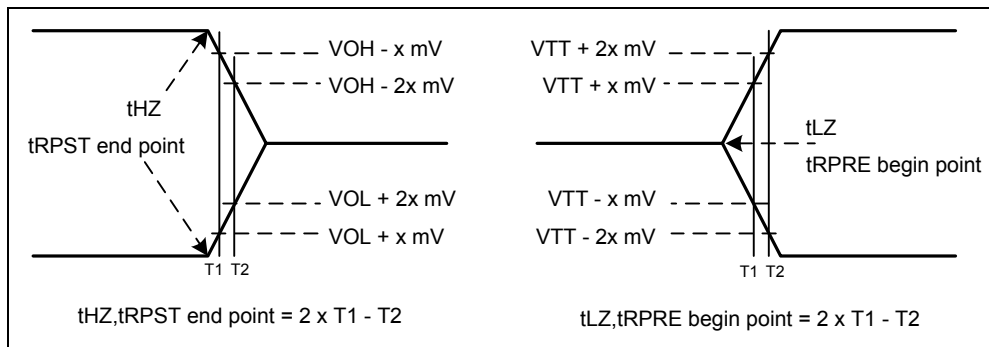

**Figure 18 — Method for calculating transitions and endpoints**
14.  $t_{RPST}$  end point and  $t_{RPRE}$  begin point are not referenced to a specific voltage level but specify when the device output is no longer driving ( $t_{RPST}$ ), or begins driving ( $t_{RPRE}$ ). Figure 18 shows a method to calculate these points when the device is no longer driving ( $t_{RPST}$ ), or begins driving ( $t_{RPRE}$ ) by measuring the signal at two different voltages. The actual voltage measurement points are not critical as long as the calculation is consistent.
15.  $t_{HZ}$  and  $t_{LZ}$  transitions occur in the same access time as valid data transitions. These parameters are referenced to a specific voltage level which specifies when the device output is no longer driving ( $t_{HZ}$ ), or begins driving ( $t_{LZ}$ ). Figure 18 shows a method to calculate the point when device is no longer driving ( $t_{HZ}$ ), or begins driving ( $t_{LZ}$ ) by measuring the signal at two different voltages. The actual voltage measurement points are not critical as long as the calculation is consistent.  $t_{LZ}(\text{DQ})$  refers to  $t_{LZ}$  of the DQ's and  $t_{LZ}(\text{DQS})$  refers to  $t_{LZ}$  of the ( $\overline{UDQS}$ ,  $\overline{LDQS}$ ,  $\overline{UDQS}$  and  $\overline{LDQS}$ ) each treated as single-ended signal.